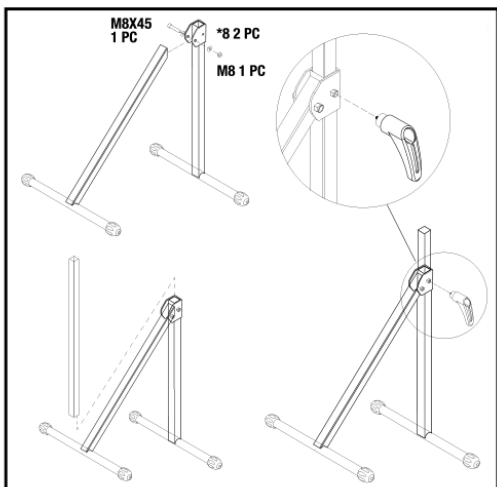

Fig. 2
- Connect folding leg (Fig. 2).